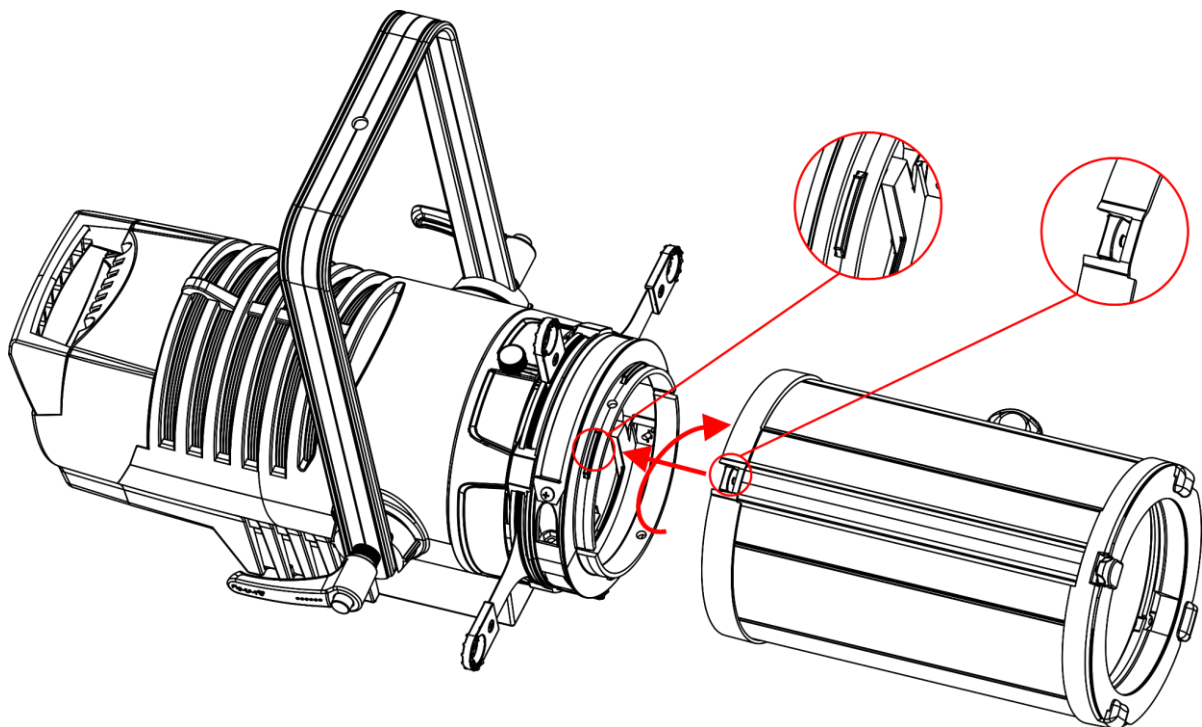

Fig. 07
- 01) Insert the cutout into the slot of the fitting at the marked spot, see fig. 07.